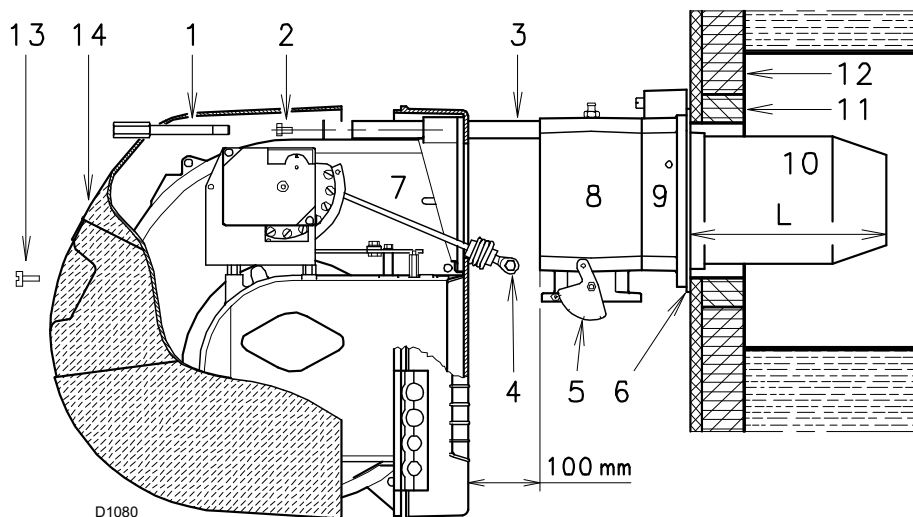
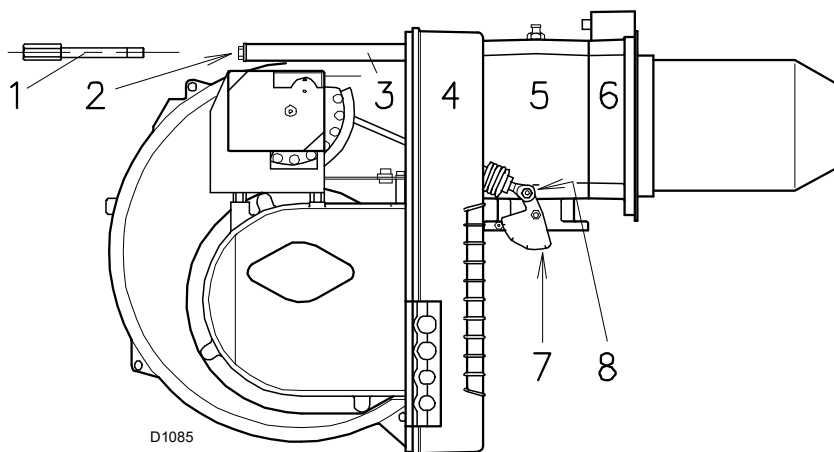

Fig. 12
Fig. 15
For boilers with front flue passes 13)(Fig. 12), a protection in refractory material 11) must be inserted between the boiler refractory 12) and the blast tube 10).
Separate the combustion head from the rest of the burner, as shown in Fig. 12; proceed as follows:
- refit the burner 4)(Fig. 15) on the guides 3) at about 100 mm from the pipe coupling 5) - burner in the position shown in Fig. 12 on page 16;
- insert the probe cable and the electrode cable, then slide the burner as far as the pipe coupling, with the burner in the position shown in Fig. 15.